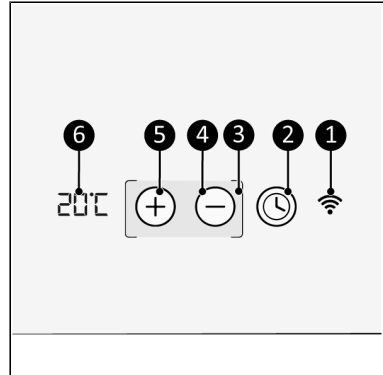

Figure 5.
The LED-screen will extinguish automatically after ± 15 seconds, the square brackets remain visible. Touch the device between the square brackets (Figure 5, pos. 3) to light it up again.